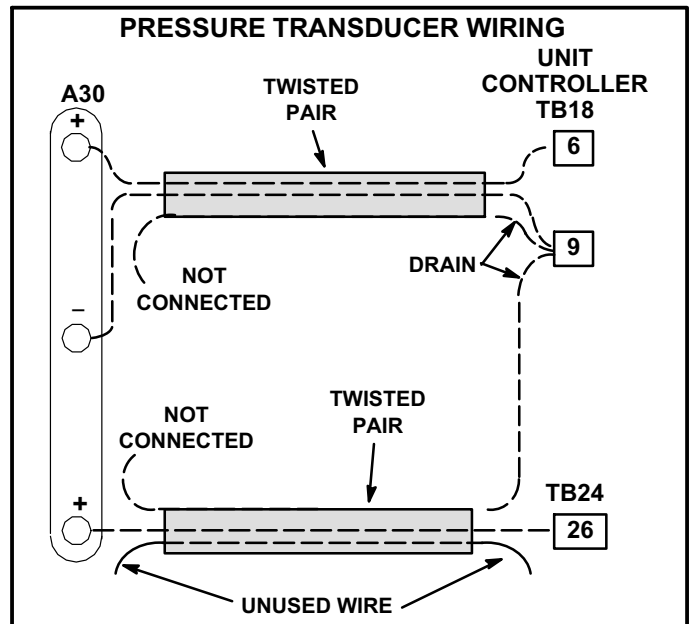

FIGURE 23
- 2- Two twisted pairs of shielded cable must be used to connect the pressure transducer. See figure 23.